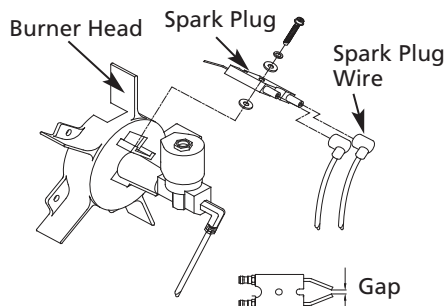

Figure 12 – Spark Plug
- Remove spark plug wire from spark plug (See Figure 12).